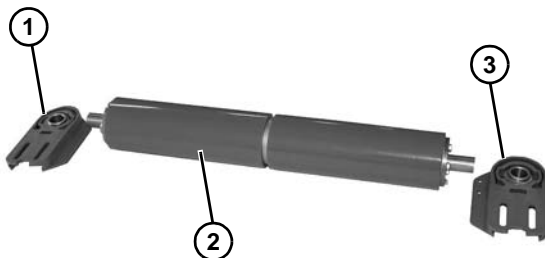

Figure 47
- Slide the head plate with bearing (Figure 47, item 1) off the shaft (Figure 47, item 2).
- Repeat for opposite side head plate (Figure 47, item 3).